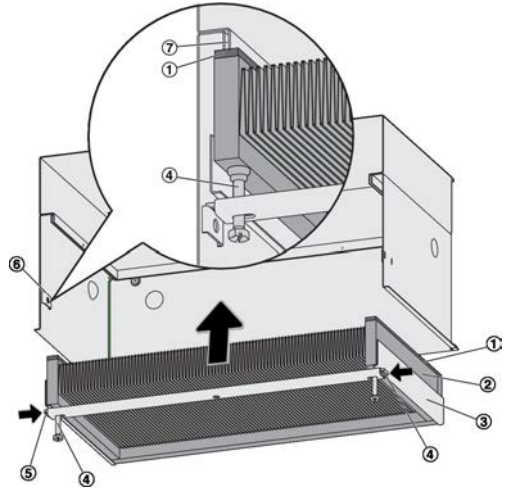

Fig. 5: Inserting a filter element
1. ▶ Remove the clamping frame (Fig. 5/3) from the ceiling mounted particulate filter. To do so, loosen the clamping screws (Fig. 5/4), then press the release buttons (Fig. 5/5) in; remove spacers, if any (spacers are used to fix the clamping frame during transport of the unit).
2. ▶ Set the filter element (Fig. 5/2) with the seal (Fig. 5/1) facing upwards into the clamping frame.
3. ▶ Push the clamping frame with the filter element into the casing. Ensure that the release buttons snap into the recesses on both sides (Fig. 5/6).
4. ▶ Turn in the clamping screws (2 or 4) evenly such that the filter element is pressed against the test groove (Fig. 5/7); 2 Nm max. torque.